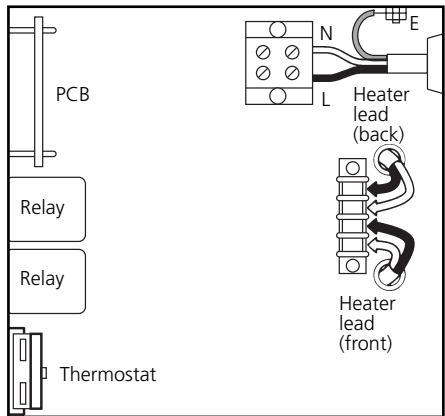

Fig 6 Terminations for A8000
- 17 Pass the electric cables of the heaters up into the electrical control compartment via the available orifice. Push the spade terminals onto the correct pins of the connecting strip (refer to fig. 6).